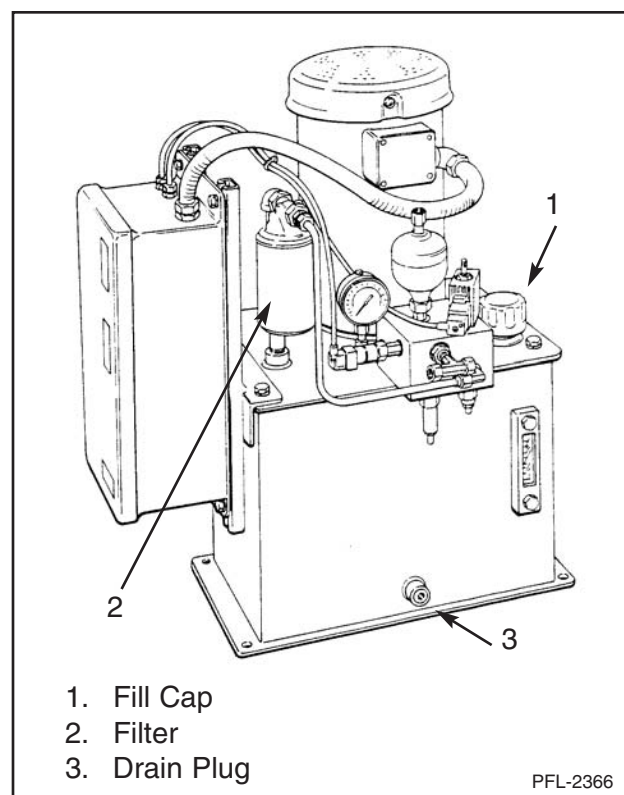

Figure 16
3. Drain the system by removing plug near bottom of reservoir. See Figure 16. When draining the system, it is desirable to remove ALL of the used oil. Allow sufficient time for thorough draining so that a minimum of the old oil remains in the system. In most cases, bleeding at the lowest point in the system will help. It is also advisable to drain only after the oil is